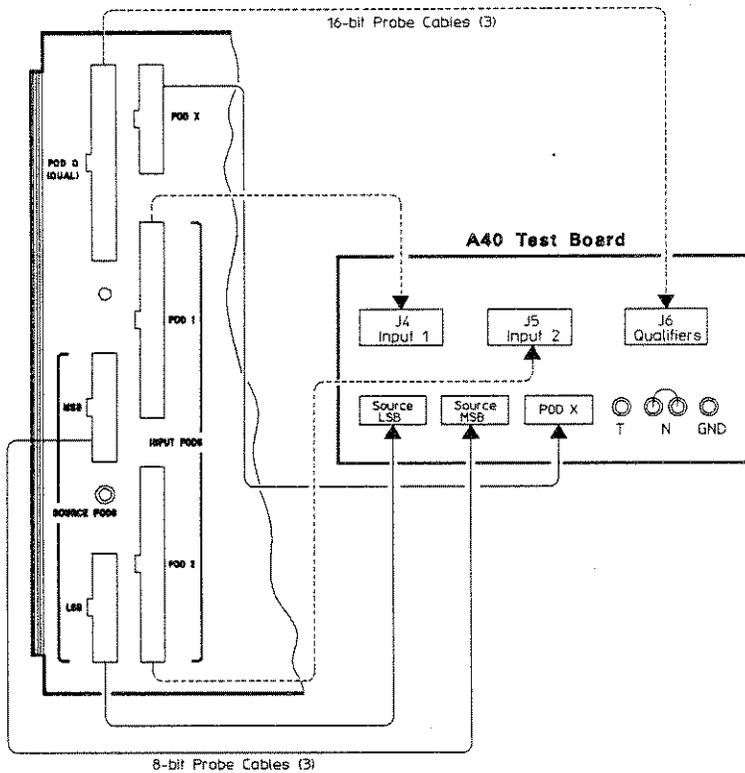

Figure 4-12. Digital Input/Output Test Setup
2. Using the cables, connect the test board to the rear panel of the HP 3563A as shown in Figure 4-12. Verify the jumper is in the normal position (N).